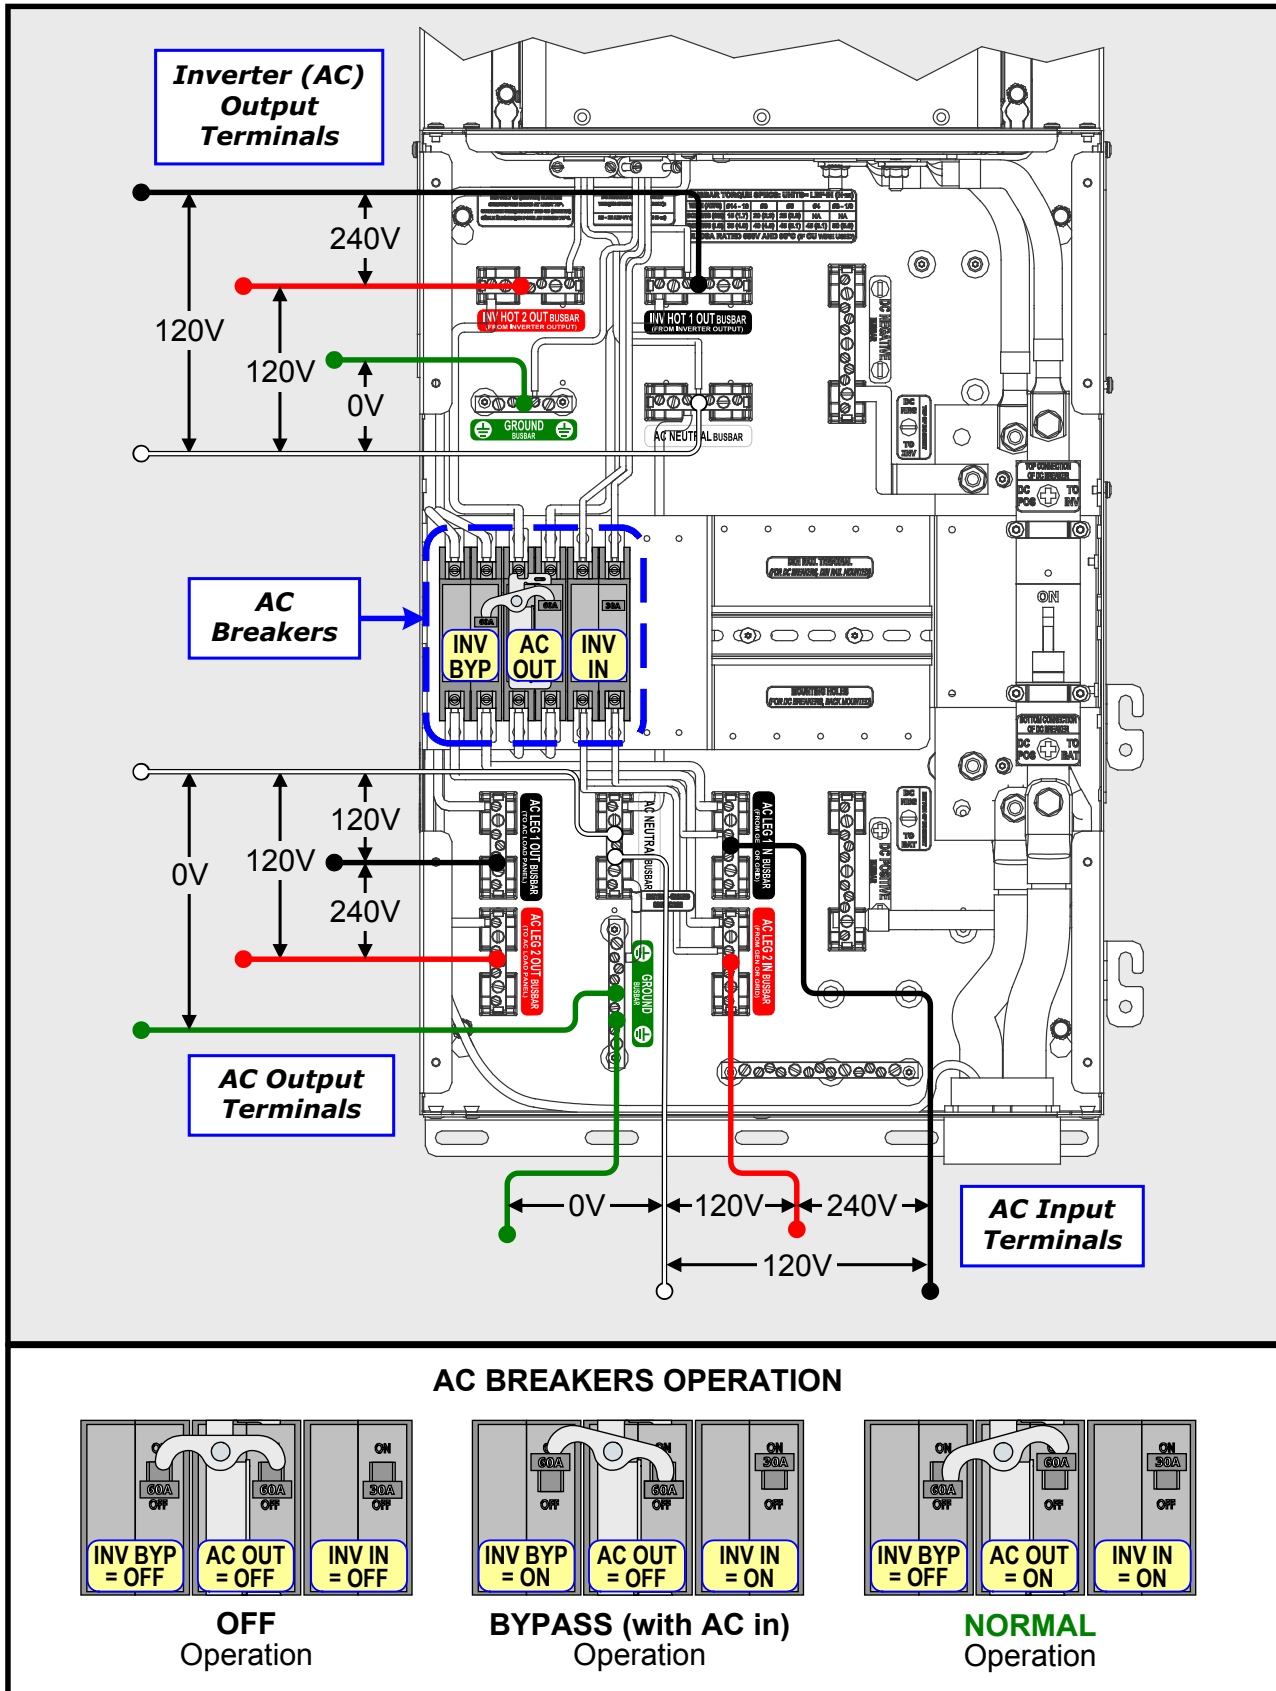
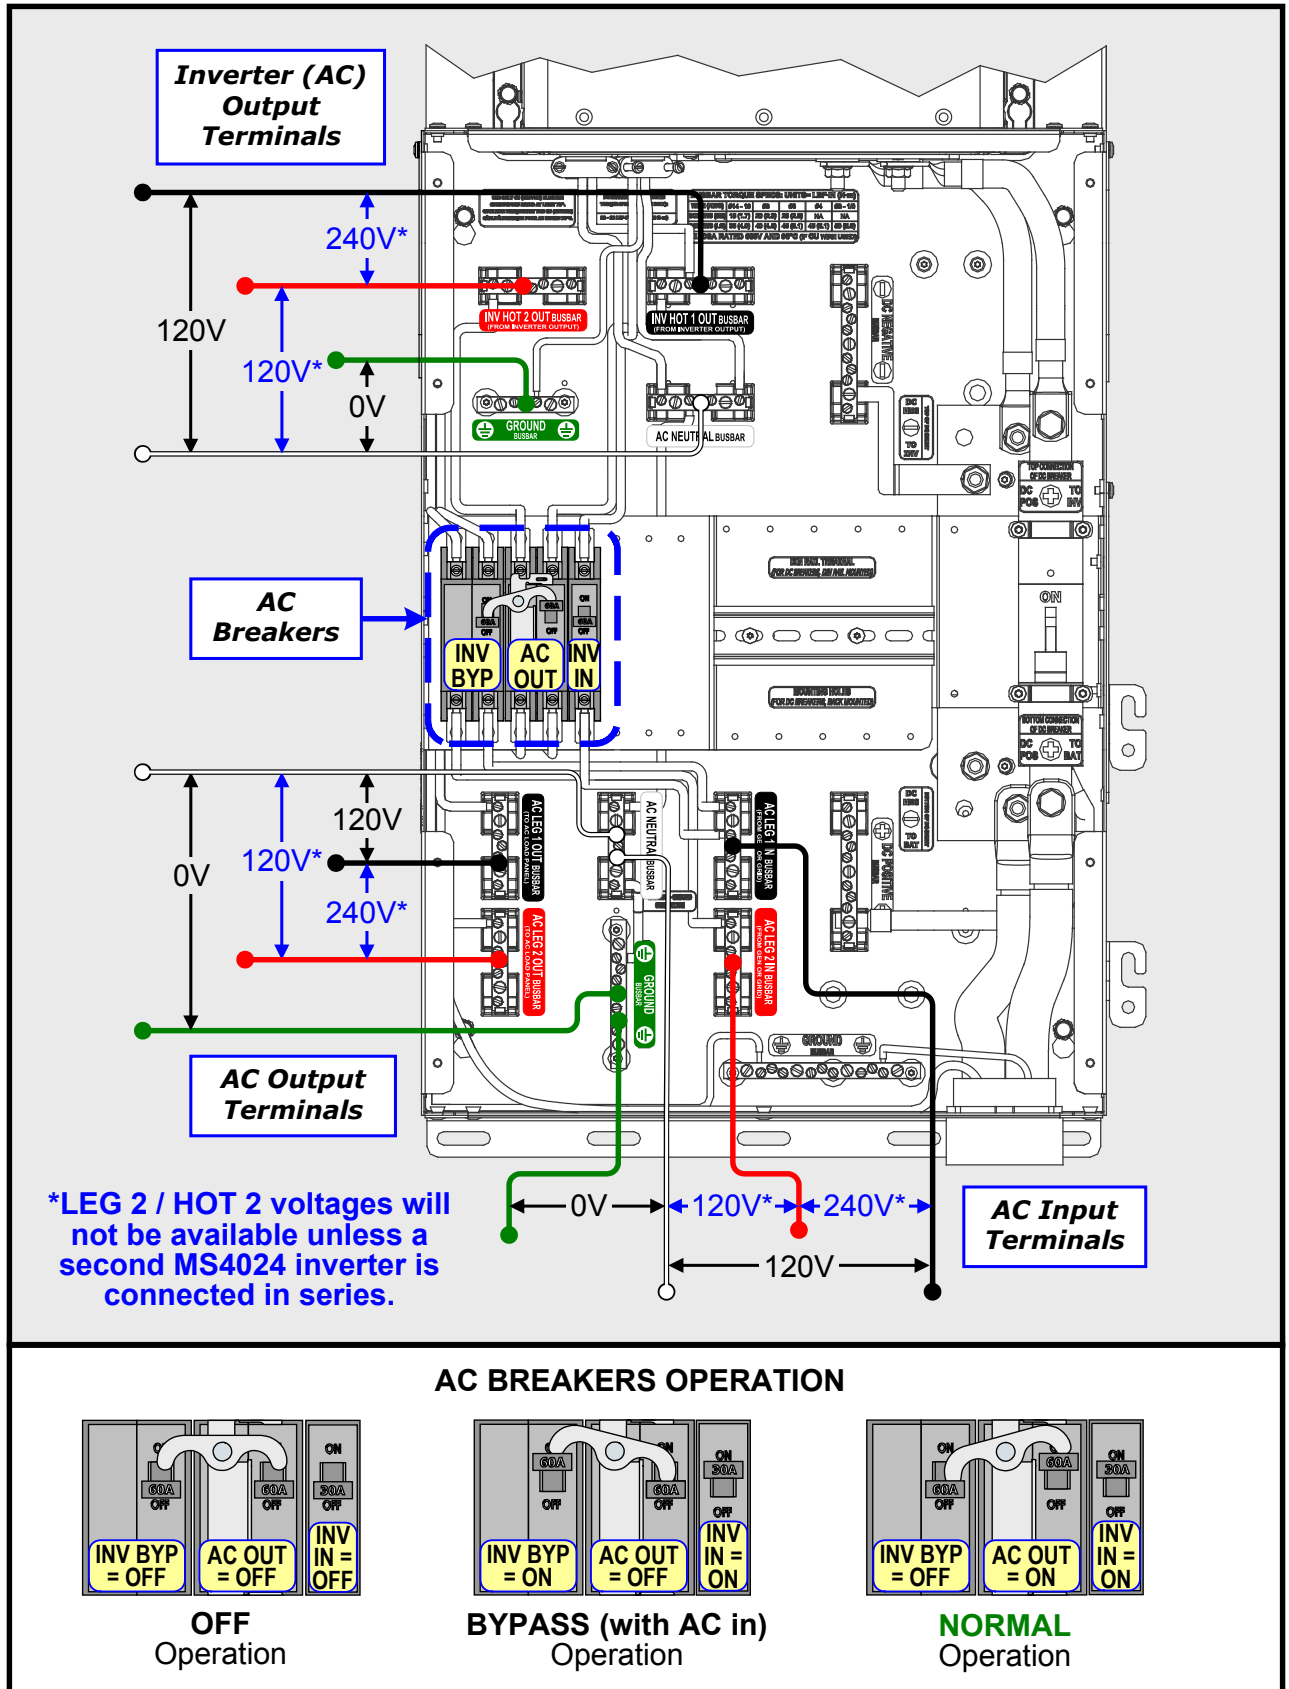
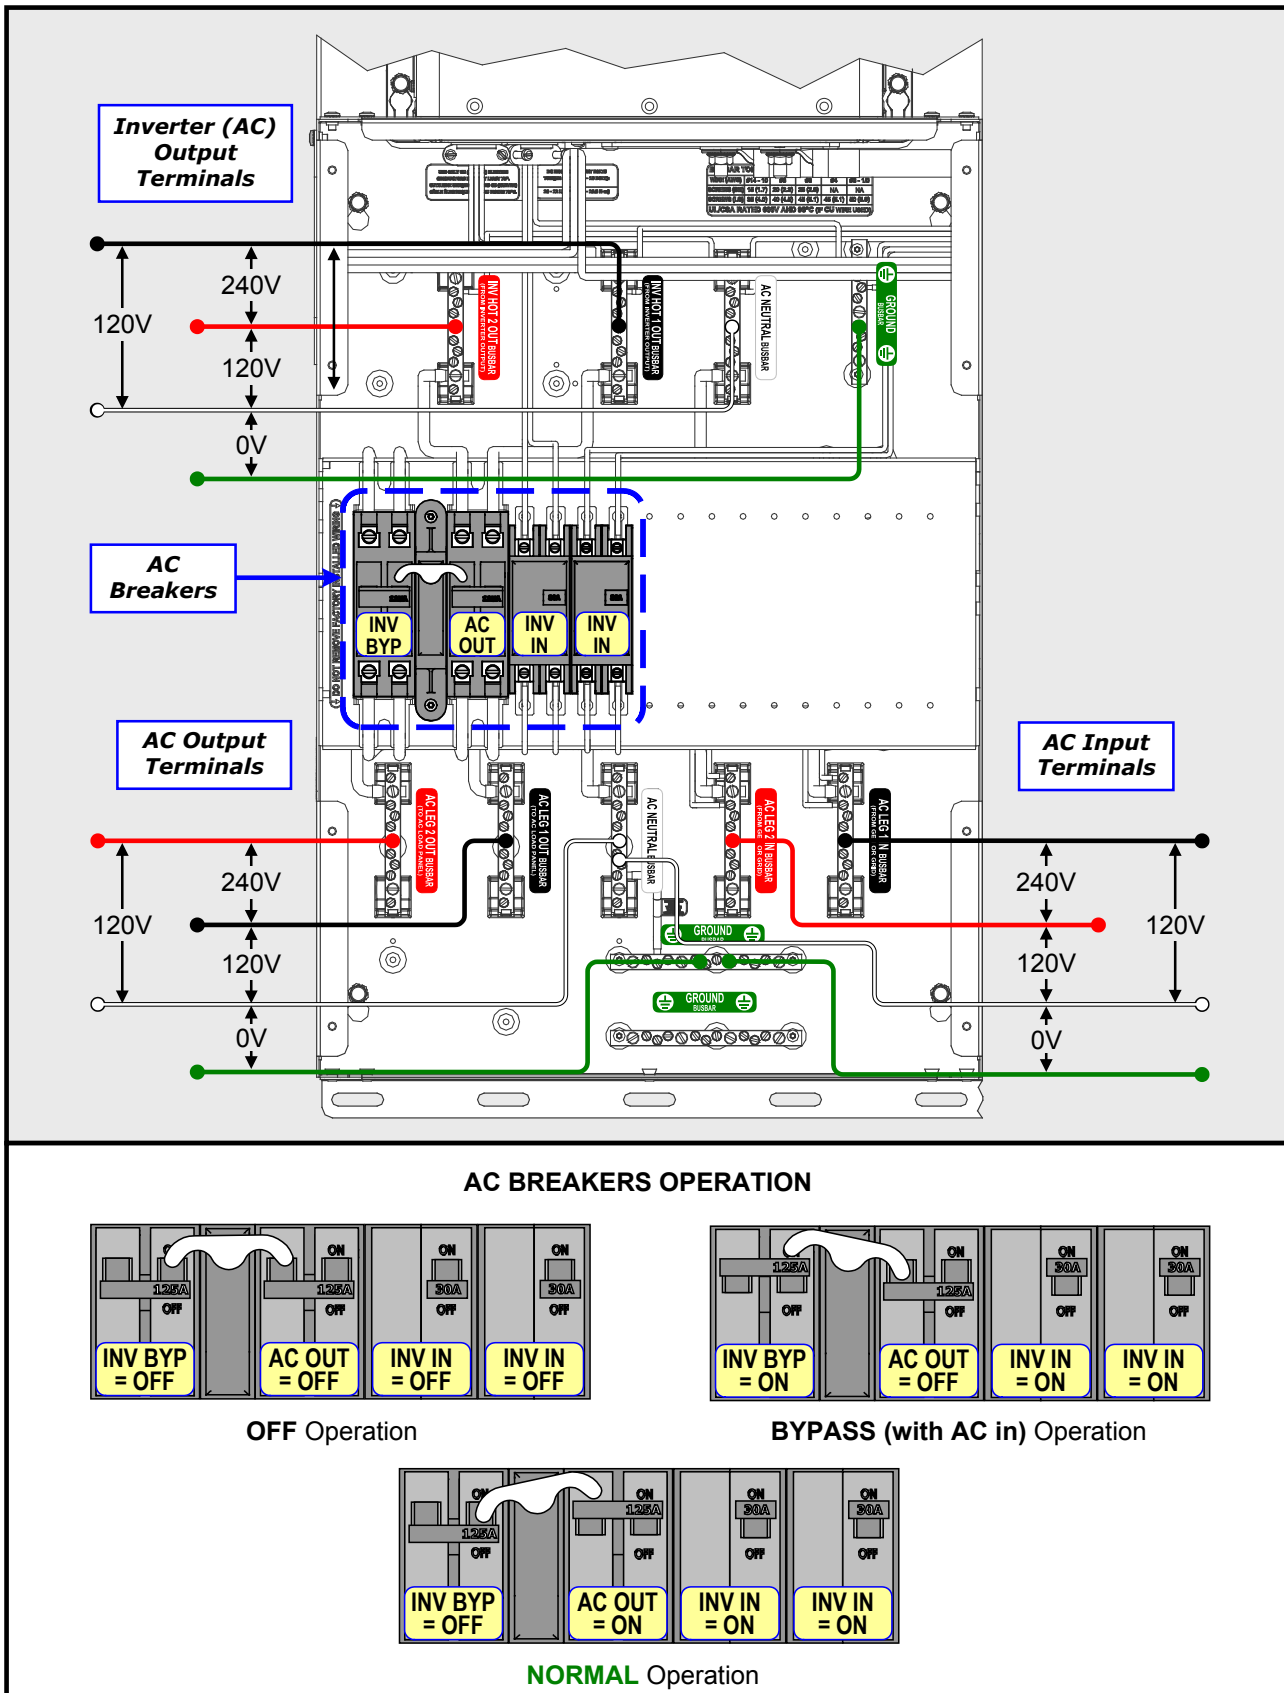

Figure 3-36, AC Voltage Checks - MPLS-30D and MPSH-30D Models
Figure 3-37, AC Voltage Checks - MP5L-60S Models
Figure 3-38, AC Voltage Checks - MPDH-30D (AC Side) Models
Note: For the following steps, refer to Figure 3-36 for MPSL-30D and MPSH-30D models, Figure 3-37 for the MPSL-60S models, and Figure 3-38 for MPDH-30D models.
b. Connect an AC voltmeter (or multimeter set to AC Volts) to the **Inverter AC Output Terminals** and verify the correct AC voltage from the inverter. Refer to Figure 3-36, 3-37, or 3-38 (depending on your MP model) to determine the correct inverter AC output voltage.
f. Apply power from an external AC source (utility grid or AC generator) to the **AC Input Terminals** and verify the correct AC voltage from the external AC source. Refer to Figure 3-36, 3-37, or 3-38 (depending on your MP model) to determine the correct AC input voltage.